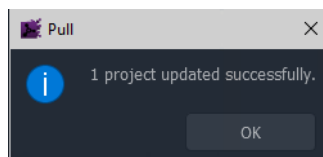

Fig. 7-30: Pull Message
- 5 When the pull is complete a 'pulled successfully' message is shown. Click **OK**. See Figure 7-30.